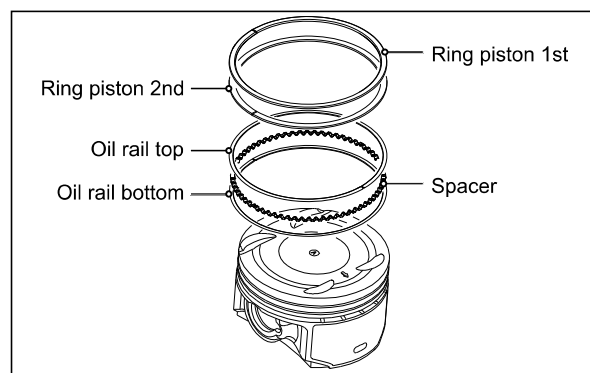
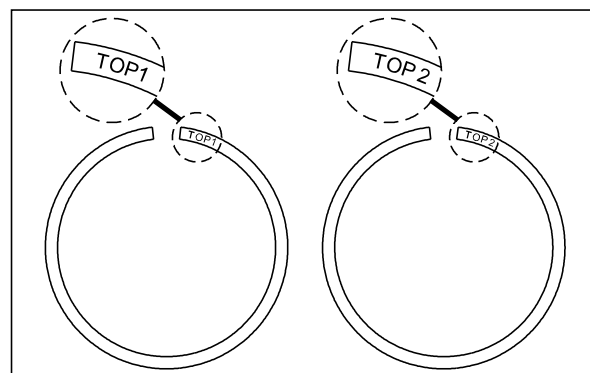

Fig. 3.99
Fig. 3.100
- Assemble the 5th ring (oil rail bottom) and ensure it is seated properly in the groove (at spacer). (Fig. 3.99)
- Now, assemble the 3rd ring (oil rail top) and ensure it is seated properly in the groove (at spacer). (Fig. 3.99)
- Install the ring piston 1st and ring piston 2nd with the marking on the ring 'TOP1' and 'TOP2' (Fig. 3.99 & Fig. 3.100) facing up (mark facing towards piston top).